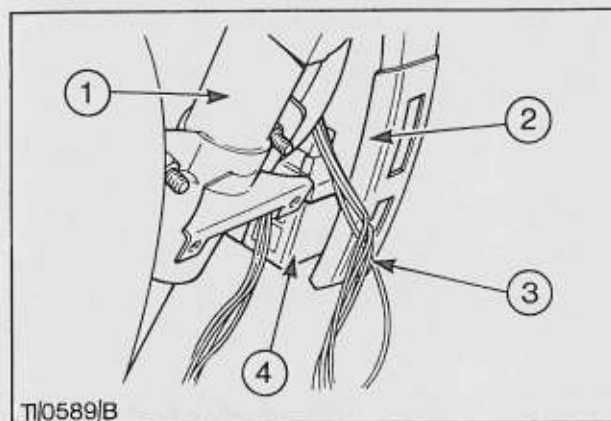

Fig. 6. Adaptor Box Installation
11. Pass the new harness behind the dash and to a position at the side of the steering column. Fit the adaptor box to the outer face of the fuse board compartment using two self-tapping screws and connect up the new harness to the adaptor box. (See Fig. 6.).